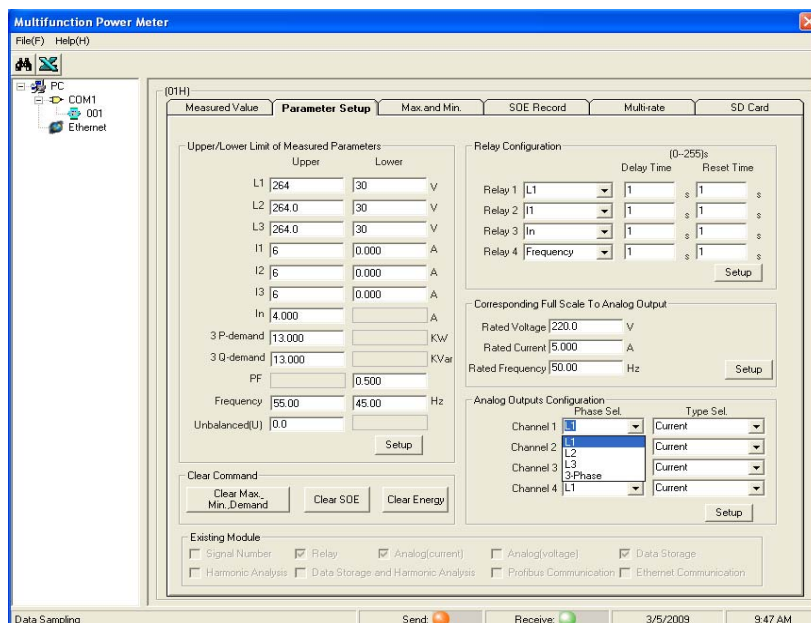

Fig. 100
5. When the 4 analog outputs module C is installed, set up the value in the "Parameter Setup" page as shown in Fig. 100.